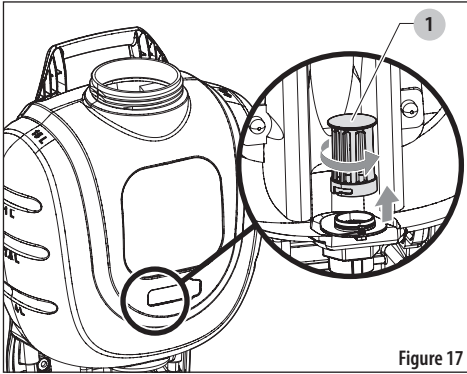

Figure 17
6. Reach into the tank and carefully grasp the in-tank filter (1) located at the bottom of the tank. See Figure 17.